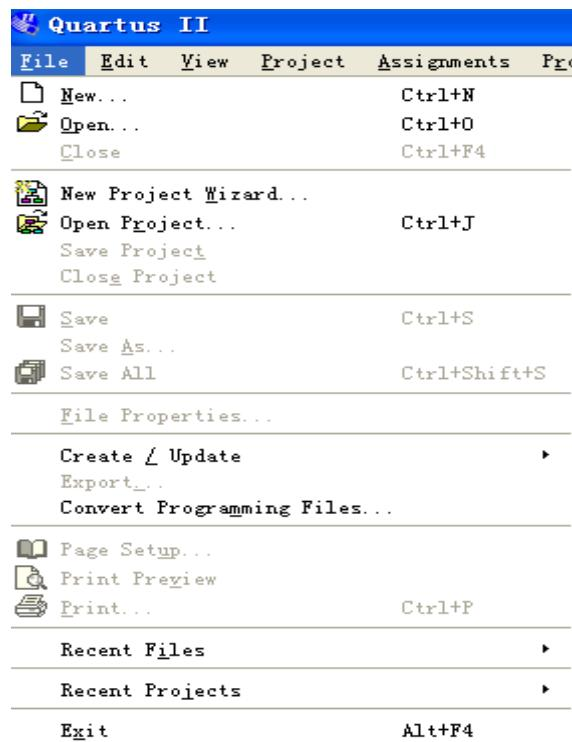
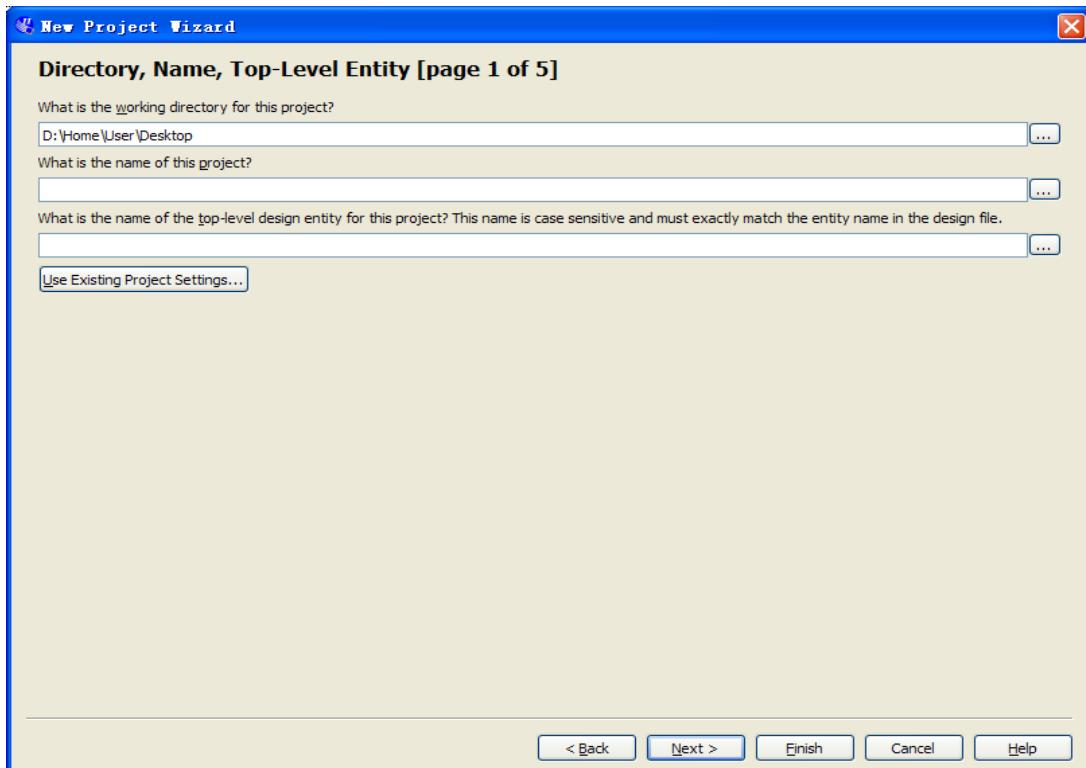

Figure 7-1 Start to Create a New Project
Figure 7-2 New Project Wizard
1. Launch Quartus II then select **File > New Project Wizard**, start to create a new project. See **Figure 7-1** and **Figure 7-2**.